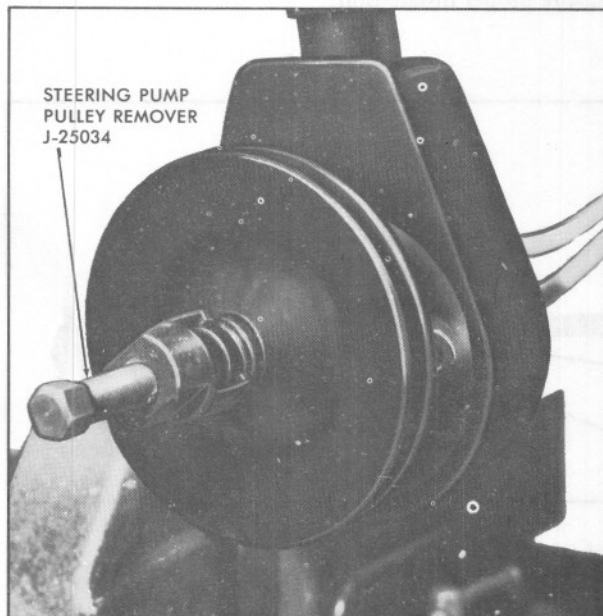

Fig. 9-1 Pulley Remover
3. Remove steering pump pulley from shaft using J-25034 steering pump pulley remover, Fig. 9-1.